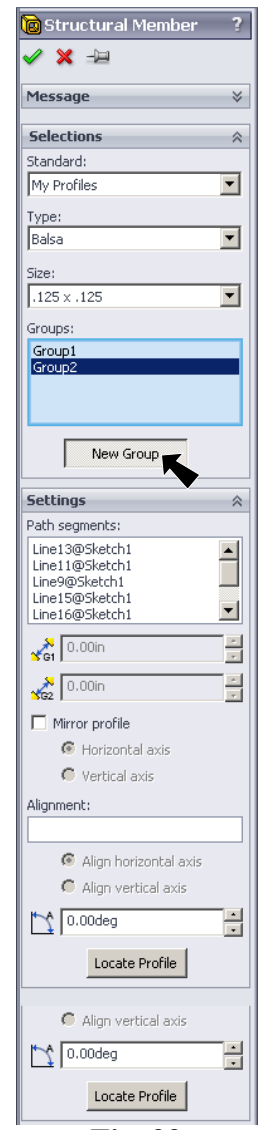

Fig. 22
Step 13. Click Zoom to Fit  (F) on the View toolbar.
Step 14. Click New Group (2) button, Fig. 22